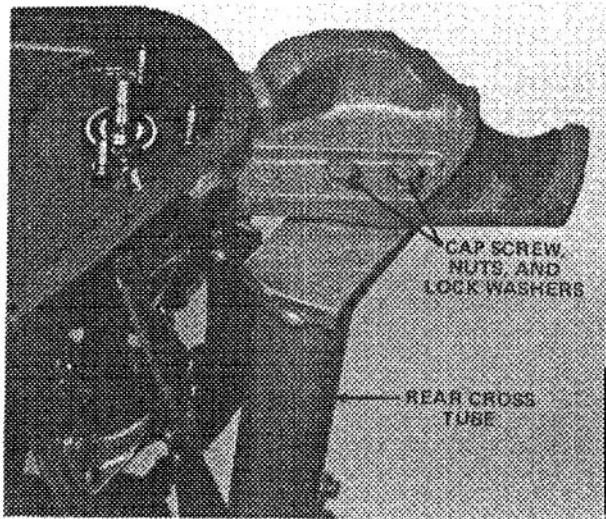

Figure 36
18. Remove capscrews, nuts, and lockwashers securing rear cross bar (Fig. 36).